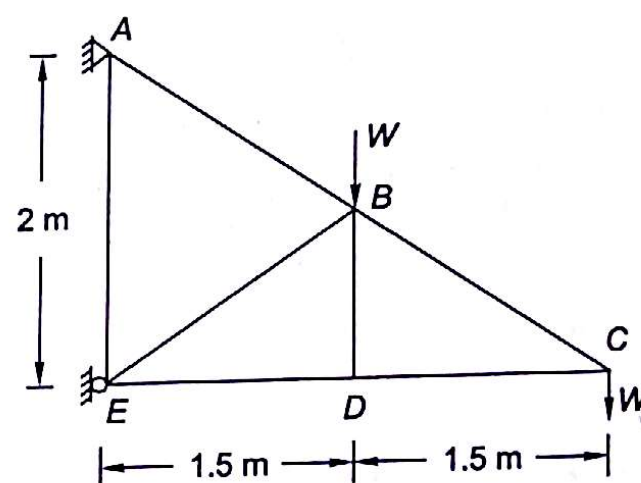

Fig. 4.34
- 4.5 A truss $ABCDE$ carries vertical load W each at joint B and C . What the magnitude of force in member BD (Fig. 4.34)?